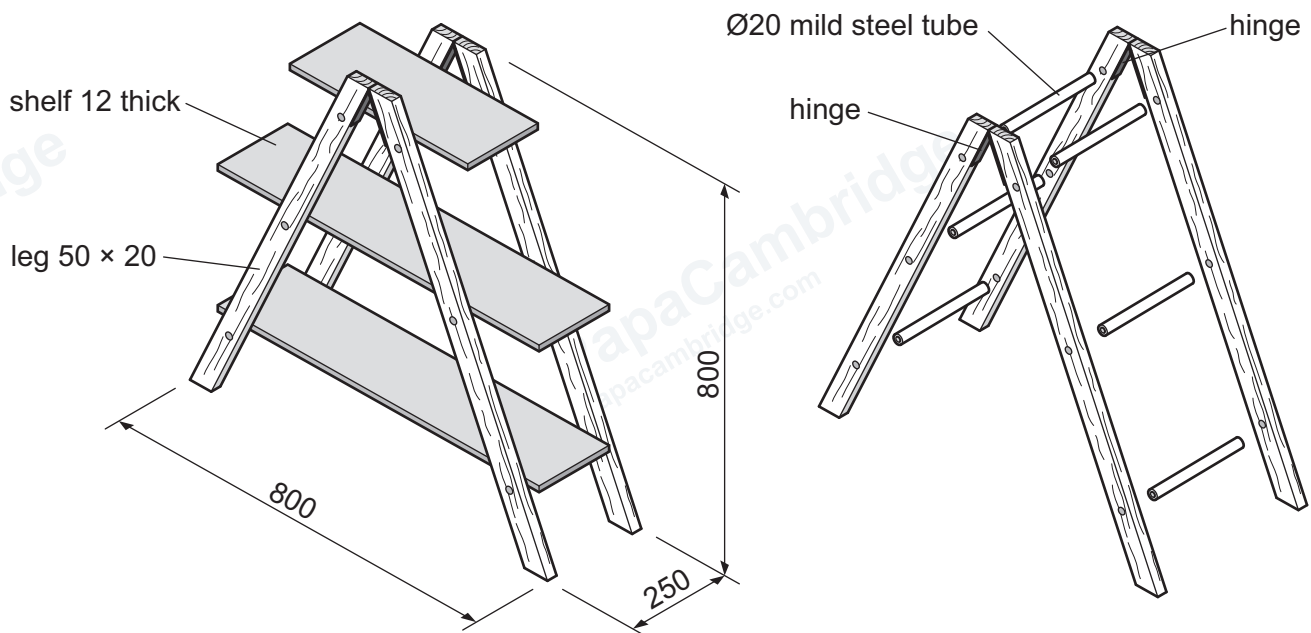

Figure 13.1
- 13 Figure 13.1 shows views of a plant stand to be used indoors. The legs are made of softwood. The shelves are made from manufactured board.